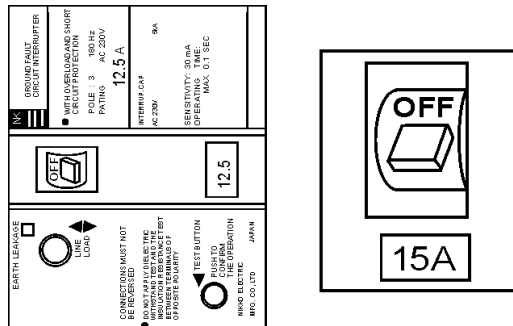

Figure 11. 60 and 180 Hz Circuit Breakers (OFF Position)
2. **NEVER** start the engine with the 60 or 180 Hz circuit breakers in the "ON" position. Place both circuit breakers (Figure 11) in the **OFF** position.